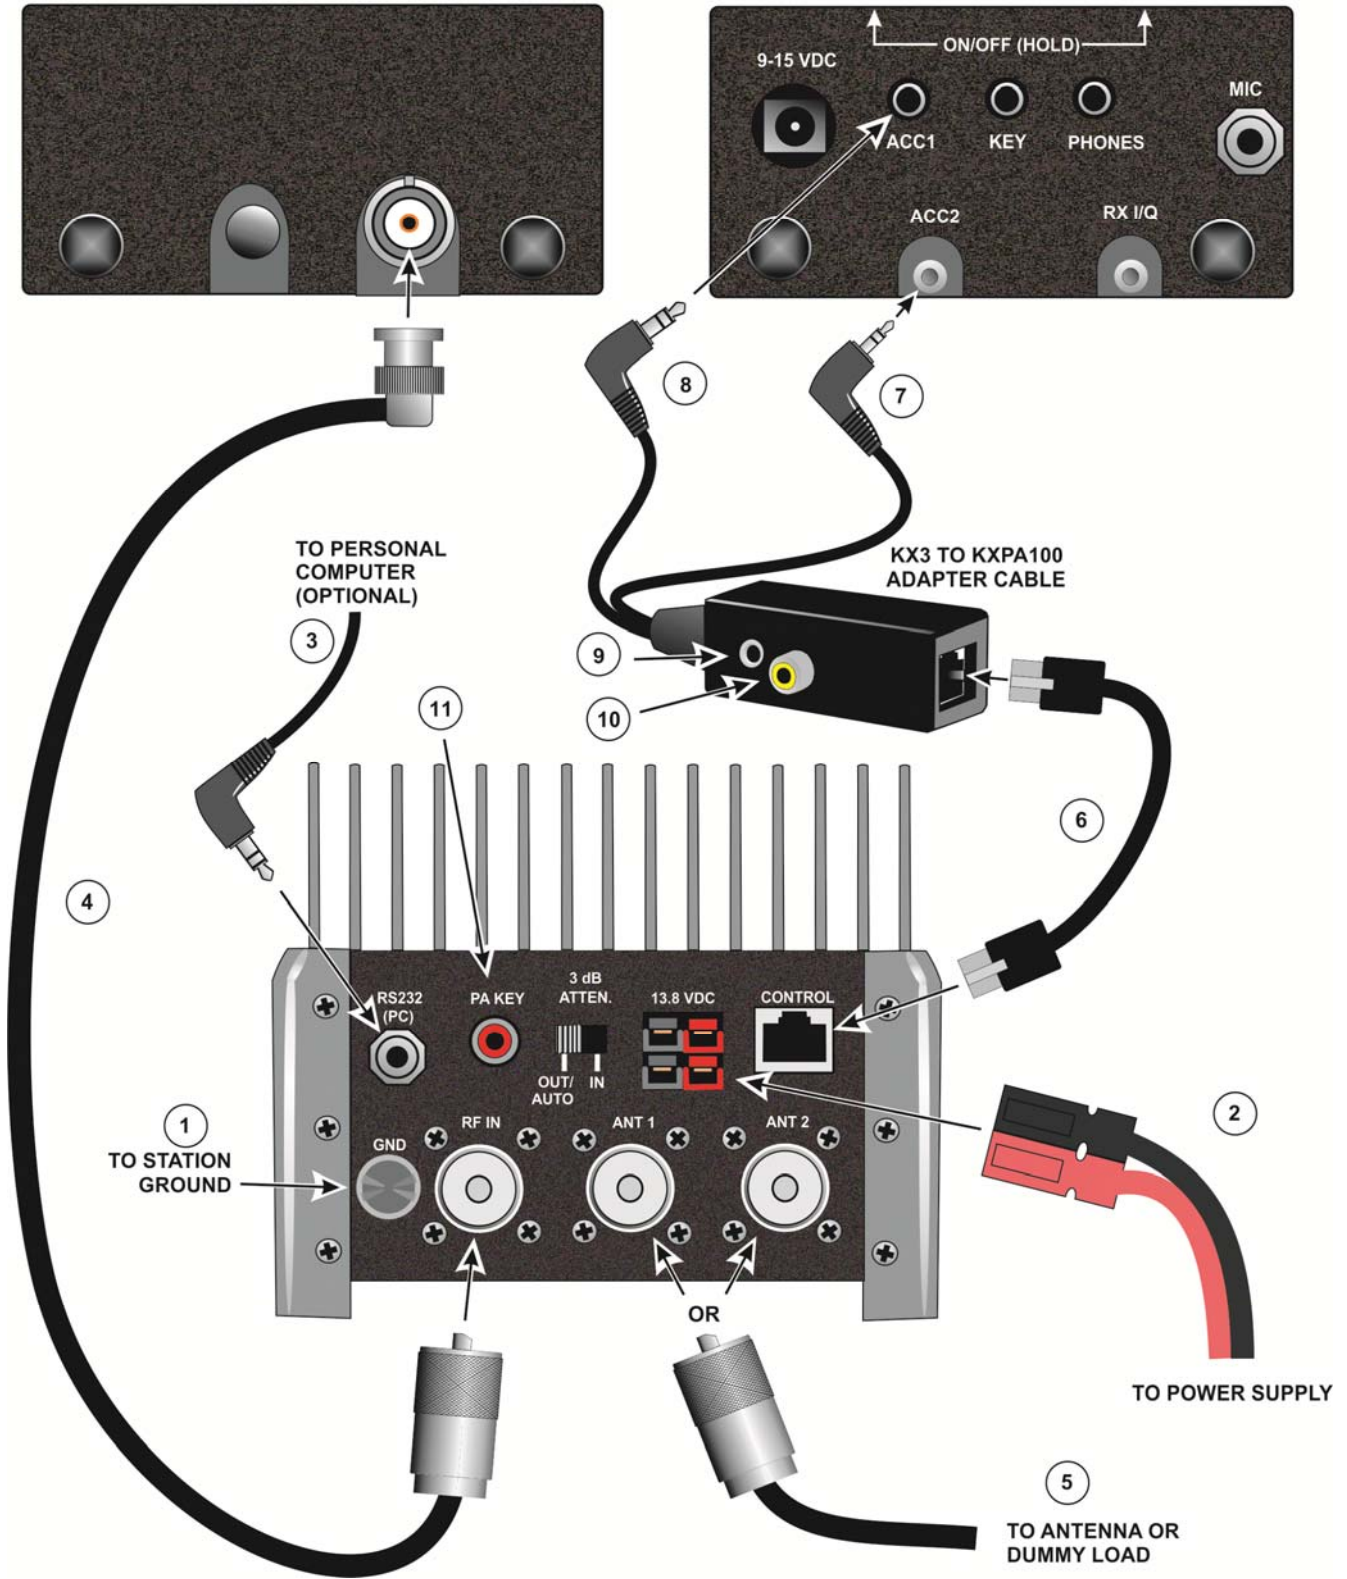

Figure 3. Connecting the Amplifier to a KX3 Using the Optional Adapter Cable.
Figure 3 shows the connections required. See the following text for details of each cable and its function.
An amplifier with the optional KXAT100 antenna tuner is shown. If your amplifier does not have the antenna tuner option, you will have only one ANT connector. Otherwise there is no difference in the connections. These circled numbers in the following notes refer to the corresponding numbers on Figure 3.
Notes Continued Following Figure 3.
- **Connections:** Your KX3 must be connected to the KXPA100 amplifier with the KX3 to KXPA100 Adapter Cable as shown in Figure 3 on page 14.